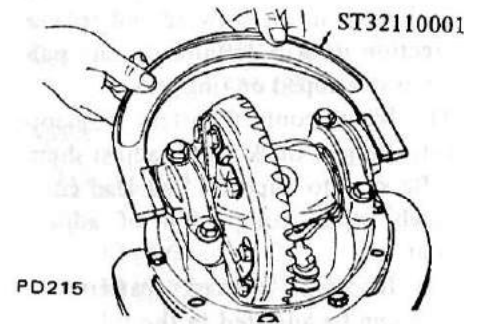

Fig. PD-23 Measuring "L" dimension
5. Measure "L" dimension (between left and right bearing cap edges) by Side Bearing Cap Gauge ST32110001 or a micrometer. See Figure PD-23.